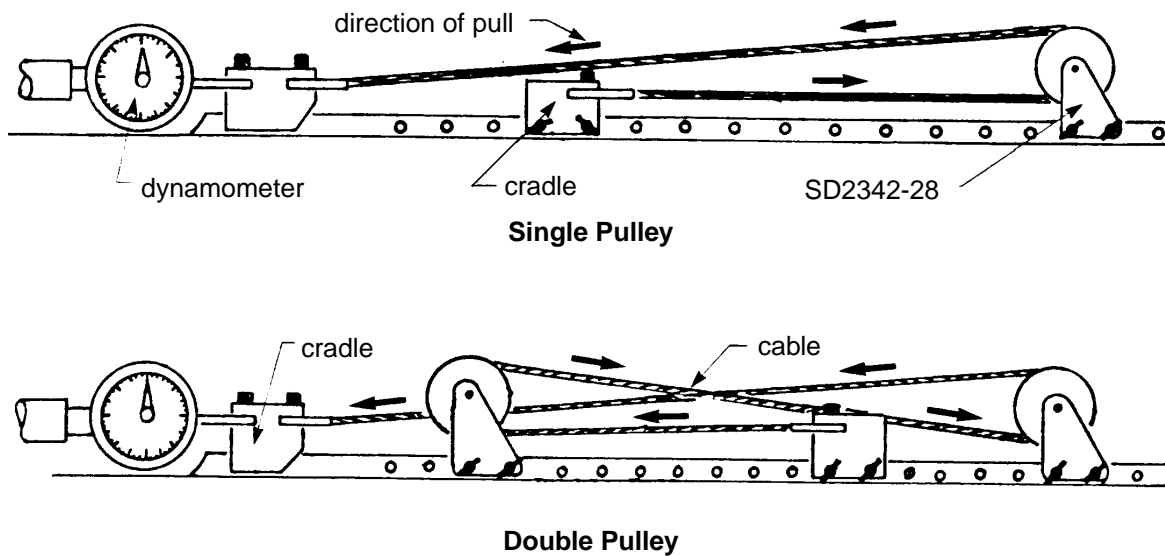
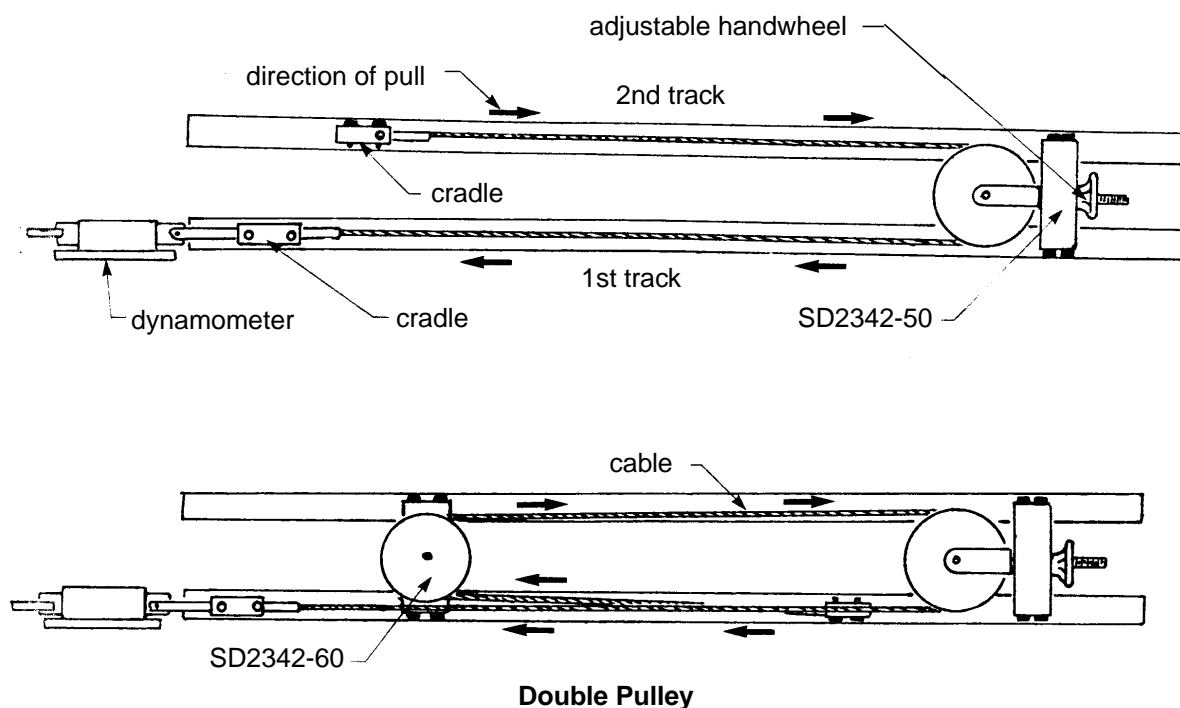

Figure 6 - Single Track Set-Up of Pulley and Attachments
Figure 7 - Double Track Set-Up of Pulleys and Attachments
- Step 2. Set-up the pulleys to use either one track of the test bench, as per Figure 6, or both tracks, as per Figure 7, whichever is convenient to production. Incorporate either one or two pulleys into the set-up, as necessary, for the cable length being tested.
- Step 3. Set-up the cable assembly in the test bench, according to Figure 6 or Figure 7, using the appropriate adapters according to Step 1 of paragraph 5.2.2. Take care to prevent kinking or twisting the cable or chain assembly.